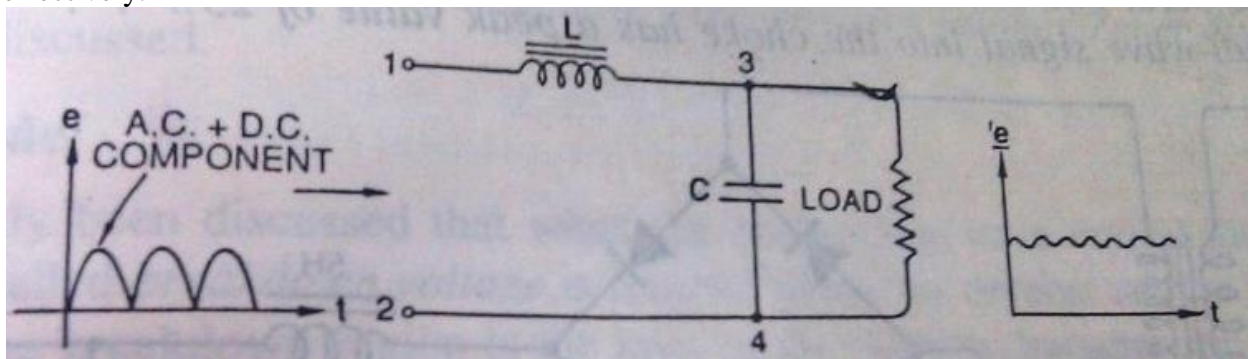

Figure 1.2.14
**Choke input filter:** Figure 1.2.14 shows a typical capacitor filter circuit. It consists of a choke  $L$  connected in series with the rectifier output and a filter capacitor  $C$  across the load  $R_L$ . Only a single filter section is shown, but several identical sections are often used to reduce the pulsation effectively.